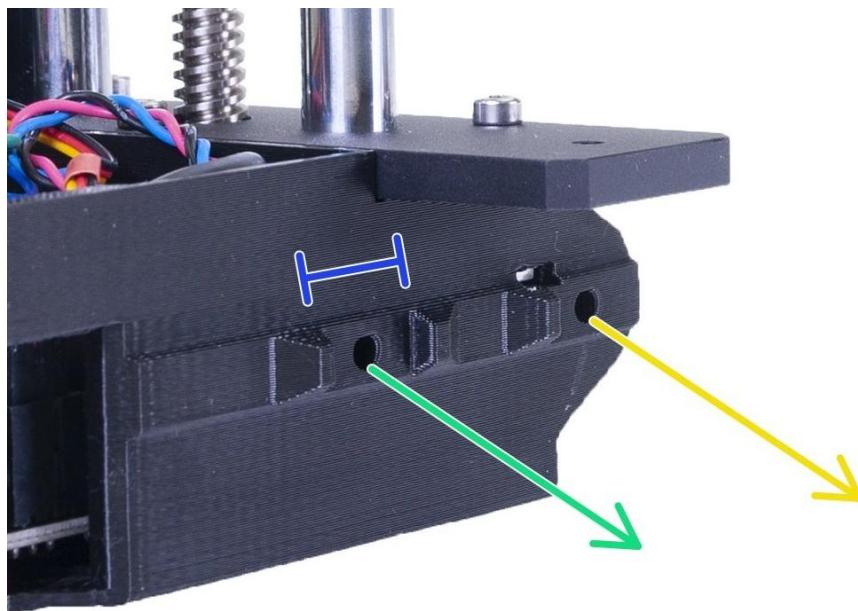

Figure 5.1.8
**Step 5-1-3:** Refer to Figure 5.1.7 and Figure 5.1.8.